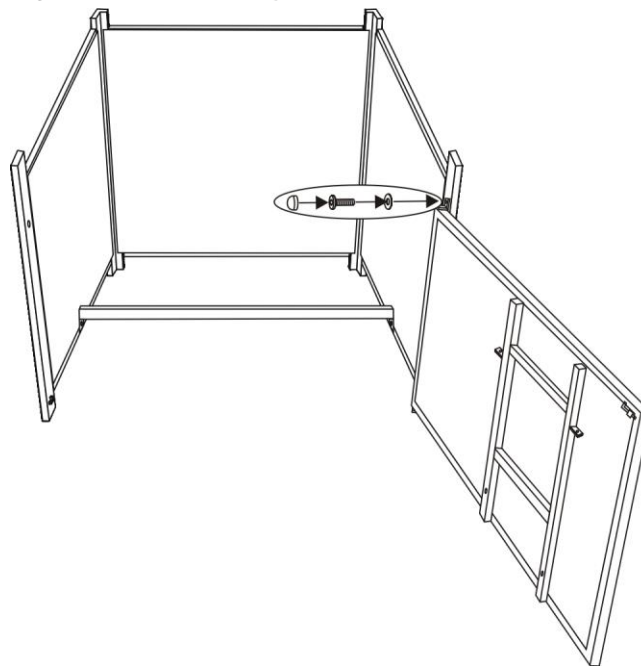

Figure 5
5. Put the door onto the "L" pre-assembled connector, guide the pin of "L" connector into the hole under the door. Then guide the pin of another "L" connector into the hole upside of the door, use a 1/4"x15 mm bolt and washer to attach this "L" connector to the right side panel as shown in Fig.5. **Do not over tighten.**